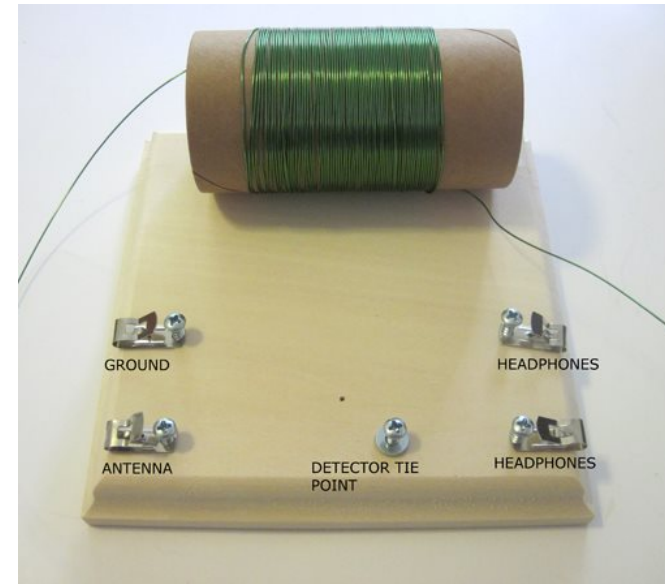

Figure 8. Attach a screw and a washer to the detector tie point.
- a. Attach the final #6 x 1/2 inch screw and the #6 washer to the wooden mounting board in the open hole closest to the edge, as shown in Figure 8. Note this is the smaller washer that came with your kit. Do not tighten the screw all the way.